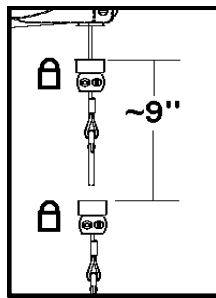

Fig. 08
- Ratchet lock engages about every 9" (230mm) of travel. [See - Fig. 08]